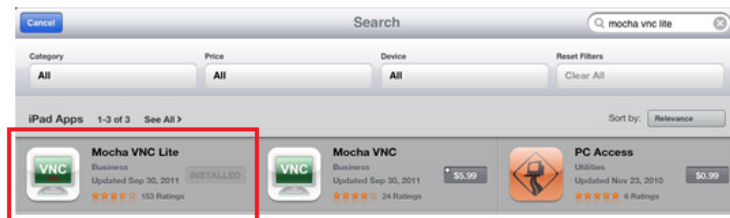

Figure 64: VNC Selection Screen
- *Mocha VNC Lite for iOS* is the software used in this example. (Figure 64)